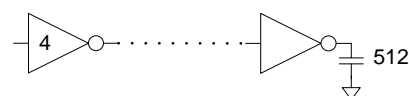

Fig. 14
14. Design a tapered buffer to drive a 512-unit loading (relative to C_{in} of unit inverter) as shown in Fig. 14. (5%)